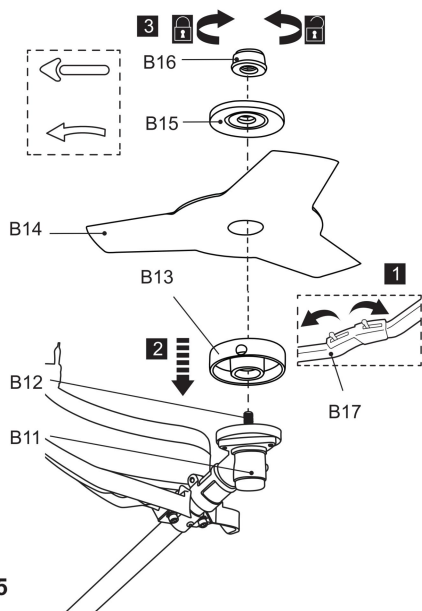

Fig. 5
- 7) Tighten the nut (B16) to secure the cutter blade counterclockwise while locking the spindle (B12) with the hex key (E5). Remove the hex key afterward (Fig. 5).